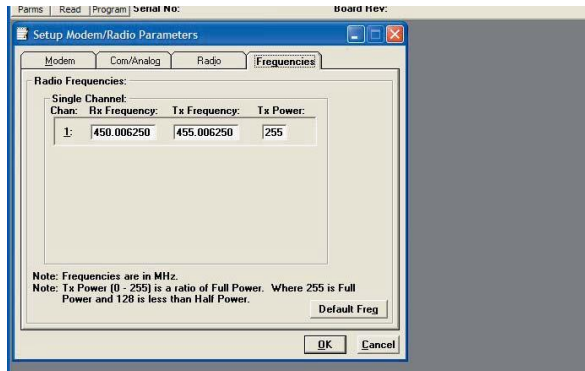

Figure 2-15 Frequencies Tab
- Digital Output - Digital Output is an option for units not equipped with the cooling fan option. This connection can be used to control the open-collector transistor on the connector. The open-collector output can sink a maximum current of 100 mA when the modem board rev is 0 or 1. The output is controlled from the Offline Diagnostics screen. Figure 2-15 shows the Field Programming Software interface for Digital I/O.